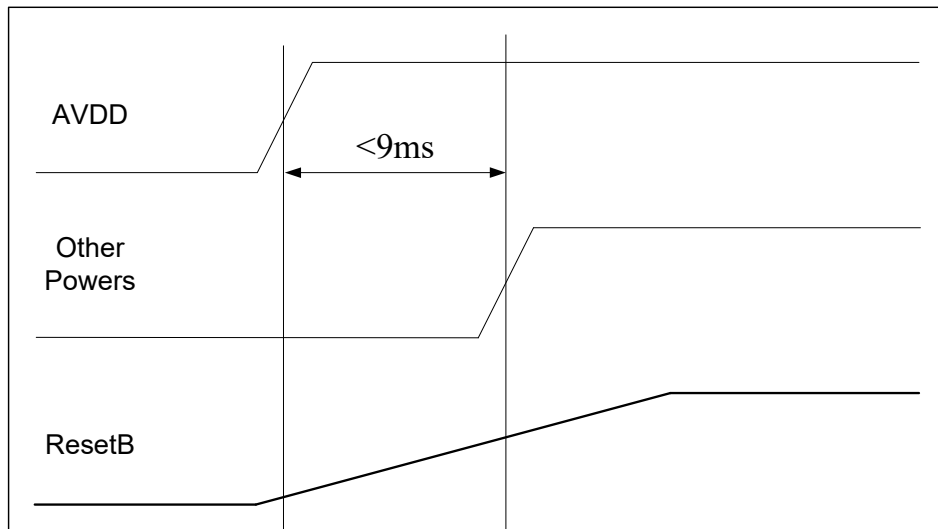

Figure 2: Power-on Reset Function's Sequence on board
- The ResetB signal can be generated by on board Resistor and Capacitor delay which can be refer to **Figure 2**. For hard ware circuit, please refer to **2.3 RESETB**.